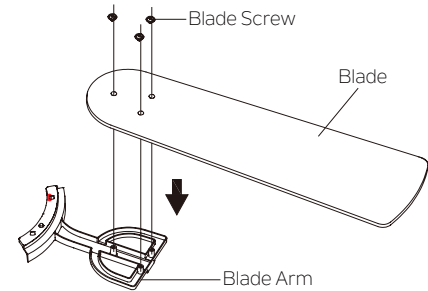

Fig. 19
Step 1. Position the blade over the blade arm with threaded posts showing. Make sure the bottom edge of the blade is fully seated against the blade arm. With a Phillips screwdriver, start a screw into the blade arm (do not tighten) and repeat for the 2 remaining blade screws . Tighten each screw securely starting with the center screw. Make sure the blade is straight. Repeat steps for the remaining blades. (Fig. 19)